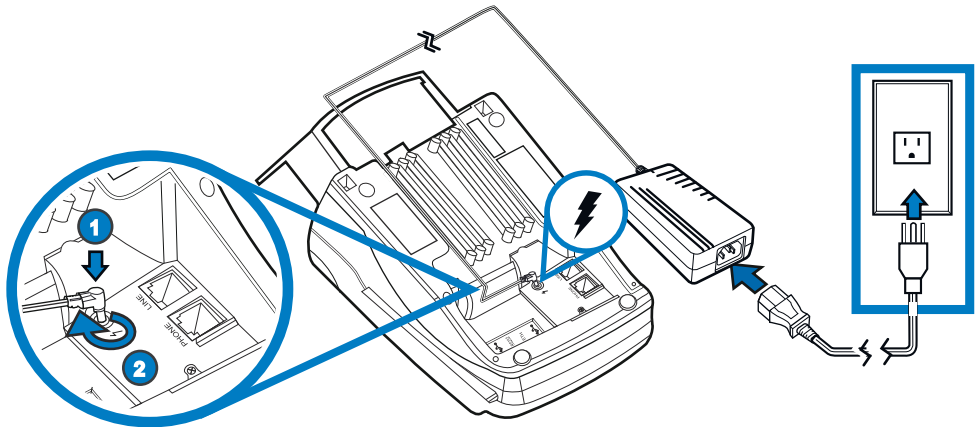

Figure 44 VX 520 Sprocket Power Pack Connection
- 2 Insert the round barrel connector (see Figure 44) into the power port.